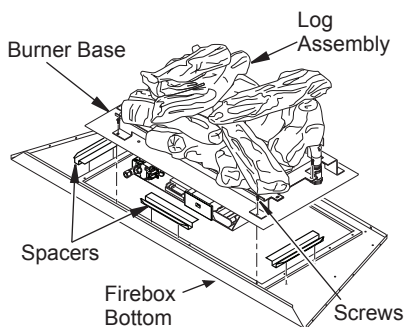

Figure 33 - Removing/Installing Burner Base
- Remove 3 spacers from firebox bottom (see Figure 33).
- Remove 9 screws from front and sides of firebox burner base. Lift entire base from unit by pulling forward to disengage from rear flange and then lifting up (see Figure 33).